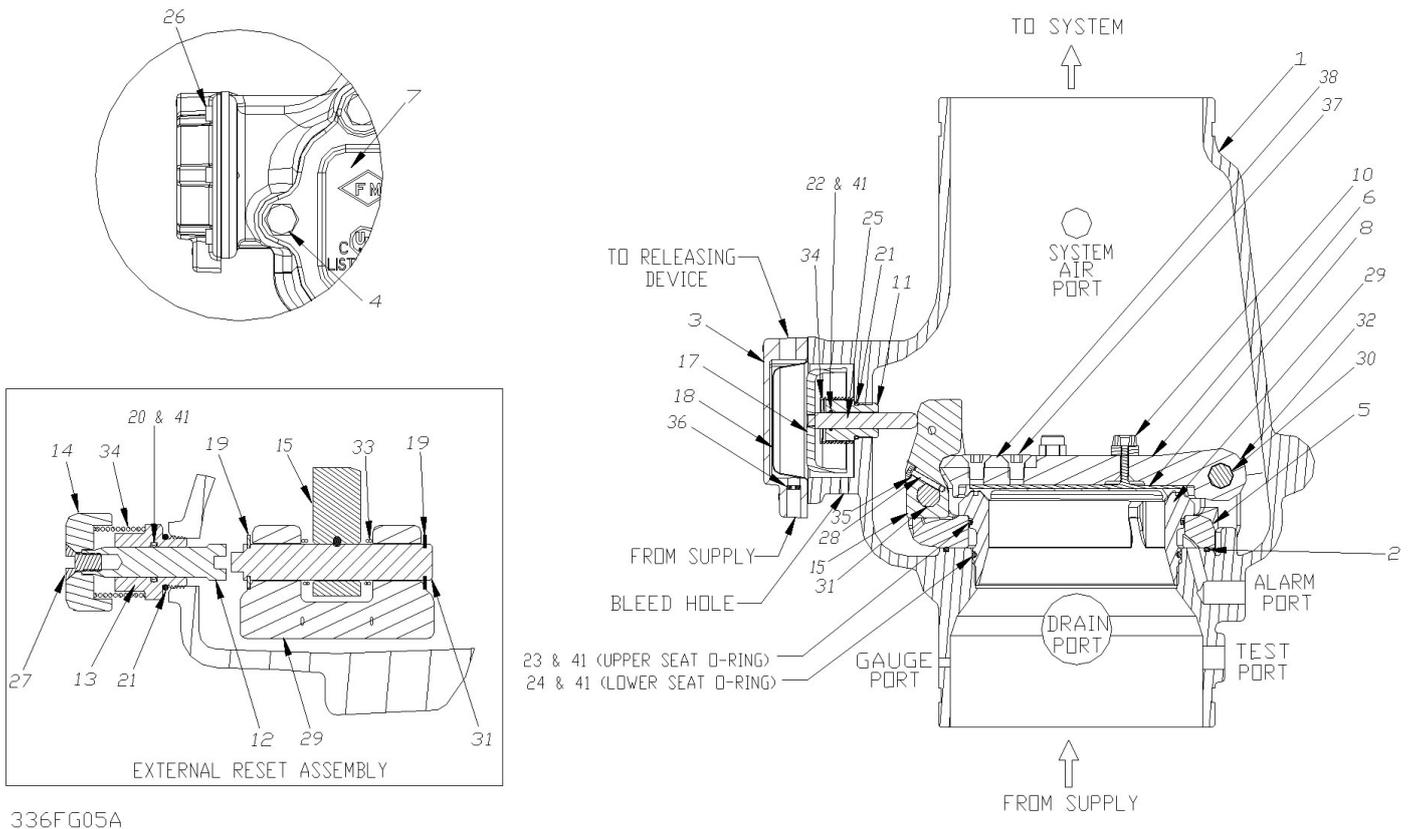

Fig. 5
- With the Model B Manual Emergency Station, Valve D (Fig.6), open, push in and rotate the Model DDXLP's reset knob (#14, Fig. 5) clockwise until you hear a distinct clicking noise, indicating that the clapper has closed. Note: The reset knob can be rotated only while the pushrod chamber is vented to atmospheric conditions (0 psig).
4. Ball drip valve G (Fig. 6) —make sure valve F (Fig. 6) is open. Push in on the plunger to be sure the ball check is off its seat. If no water appears, the Dry Pipe Valve's water seat is tight. Inspect the bleed hole (see Fig. 5) on the underside of the push rod chamber for leakage.
- a. Water leakage due to a water column above the Dry Pipe Valve's clapper: This condition can be caused by leakage past the system side of the Model DDX-LP Dry Pipe Valve's seal assembly (#8, Fig. 5). Be sure that this surface is free of any type of debris. To eliminate leakage due to a water column, refer to the section in this bulletin marked "Draining Excess/ Condensate Water From System". If the problem continues proceed to the following section.
If system air is leaking out the ball drip valve, the problem is either damage to the air side of the Model DDX Dry Pipe Valve's seal assembly (#8, Fig. 5), seat (#29, Fig. 5), mounting ring O-ring (#2, Fig. 5), or the upper seat O-ring (#23, Fig. 5). If supply water is leaking out the ball drip valve, the problem could be caused by damage to the Model DDX Dry Pipe Valve's seal assembly (#8, Fig. 5), seat (#29, Fig. 5), or lower seat O-ring (#24, Fig. 5). The following section provides instructions to correct both conditions: